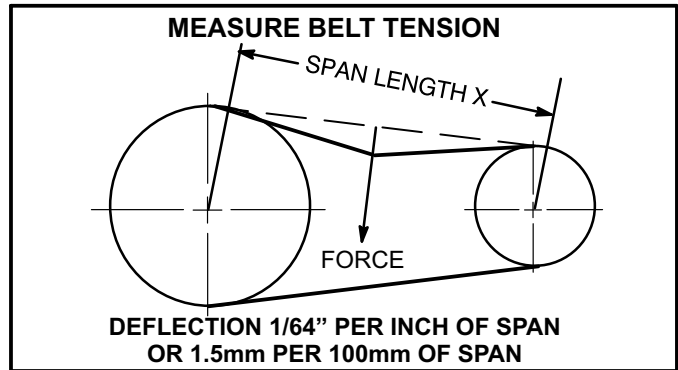

FIGURE 10
- 1- Measure span length X. See figure 10.
- 2- Apply perpendicular force to center of span (X) with enough pressure to deflect belt $1/64$ " for every inch of span length or 1.5mm per 100mm of span length.